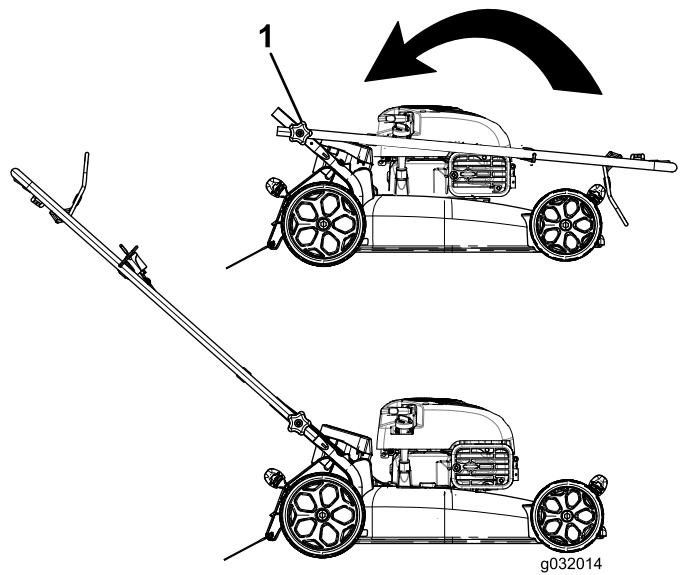

Figure 4
3. Move the handle to the operating position (Figure 4).